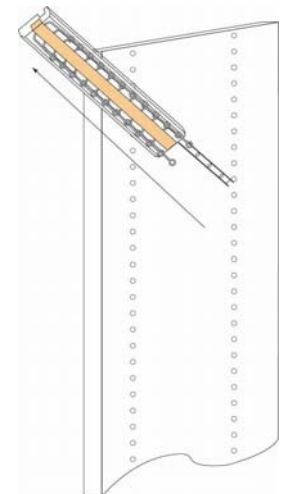

Fig. 2
2. Pull rack up vertically over the slide where the screw was just attached. (See Fig. 2.)